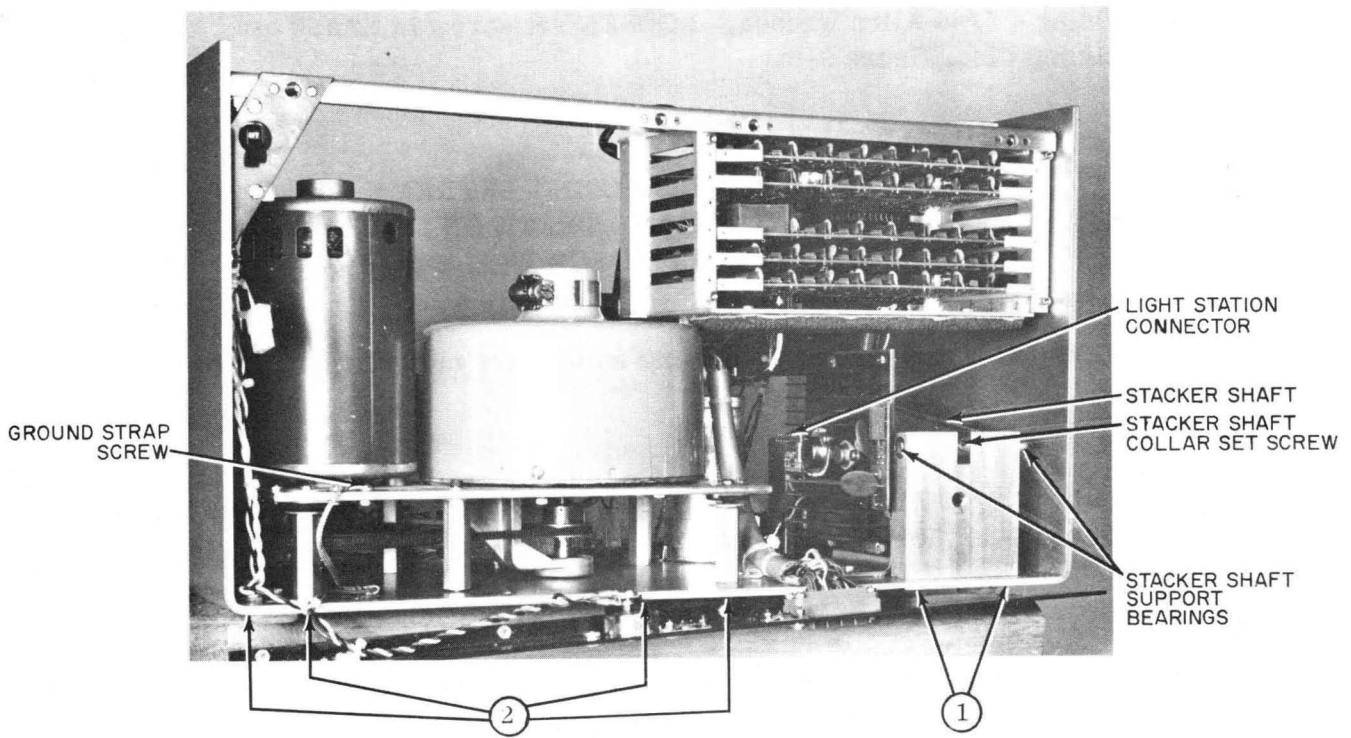

Figure 9-10. Rear View, Cover and Rear Connector Panel Removed
- f. Disconnect light station connector, figure 9-10.
6. Connect light station connector, figure 9-10.
- c. Remove cable wrap and disconnect light station connector, figure 9-10. Light station assembly is now free.
- c. Using a Phillips screwdriver, remove two screws ① from underneath main-frame holding stacker shaft support casting, figure 9-10.
- c. Remove four Phillips head mounting screws ② holding vacuum pump motor assembly, figure 9-10.